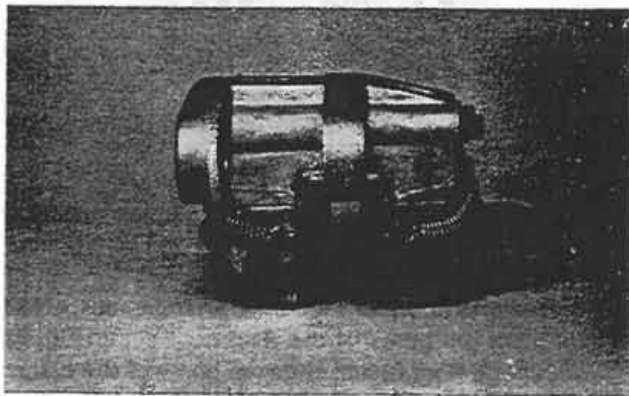

Figure 13:
1. Fit each casting with its appropriate parts (Fig. 13). The cam may be left off at this point.